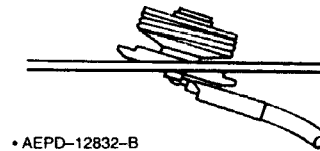

Figure 4. Inserting the Mount Base
6. Refer to Figure 4. Insert the mounting base into the mounting hole as shown, tilted slightly. Be sure that all of the cable has been pulled through to the radio set. The threaded portion of the mounting base will not fall through the mounting hole.